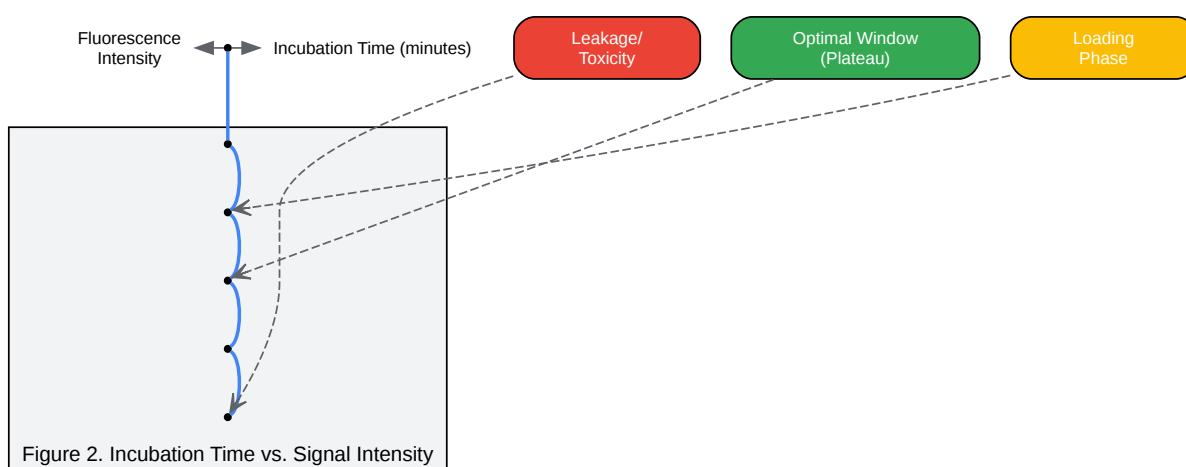

Figure 2. Incubation Time vs. Signal Intensity
- Identify the condition that provides the highest signal with the lowest background and falls within the stable plateau phase (see Figure 2). This is your optimal condition.